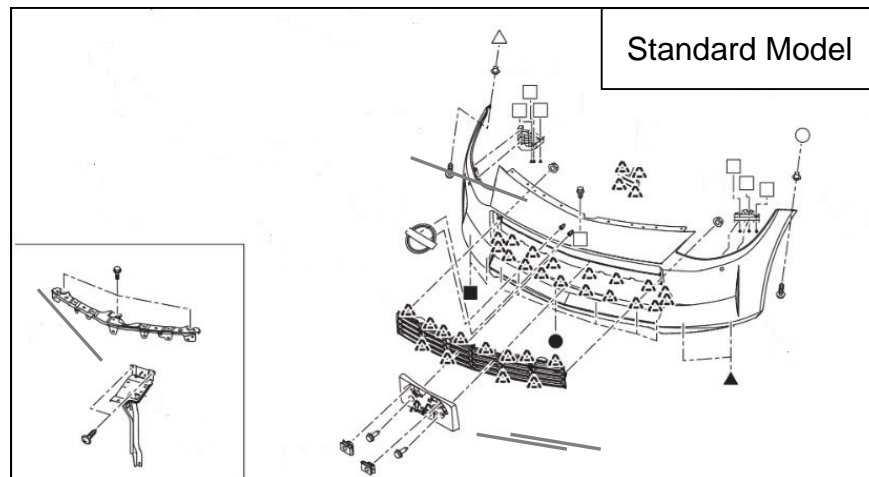
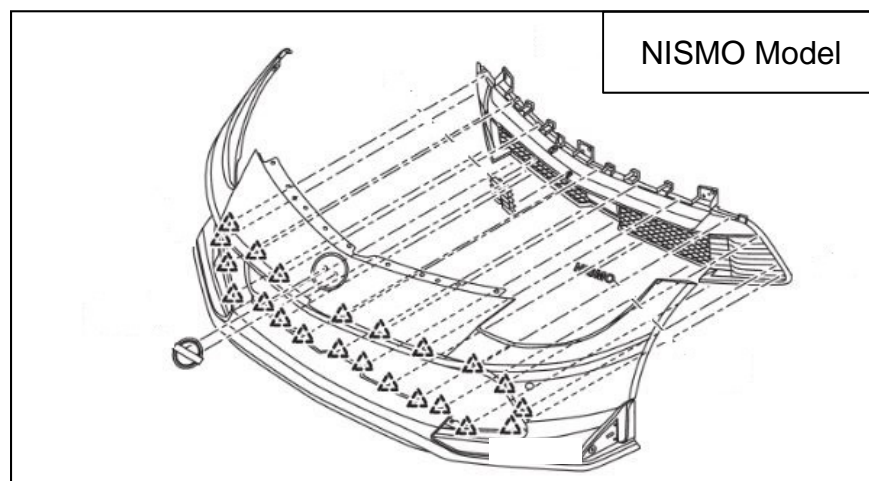

Figure 45
Figure 46
33. Reinstall the front bumper fascia onto the vehicle (Figure 45 and Figure 46).